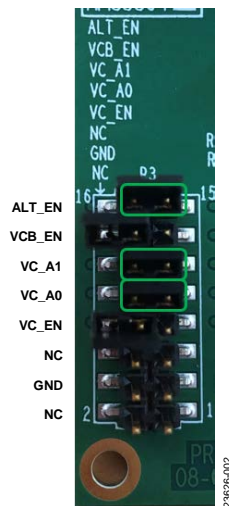

Figure 2. Connector P3 Jumper Configuration: Alternative 5 V Supply, Multiplexer, VCO Band 1, and Buffer Amplifier Enabled
4. Use the supplied shorting jumpers to configure the logic, as shown in Figure 2. In the configuration shown in Figure 2, alternative 5 V supply, the ADG1604 multiplexer, VCO Band 1 of the HMC8362 or HMC8364, and the output buffer amplifier are all enabled. When a jumper is disconnected, the corresponding signal is pulled up to  $V_{CC}$ . To reset a pin, connect the shorting jumper from the pin to the adjacent ground (GND). Figure 2 is annotated in green to indicate where a jumper is connected and thus shorted to ground.